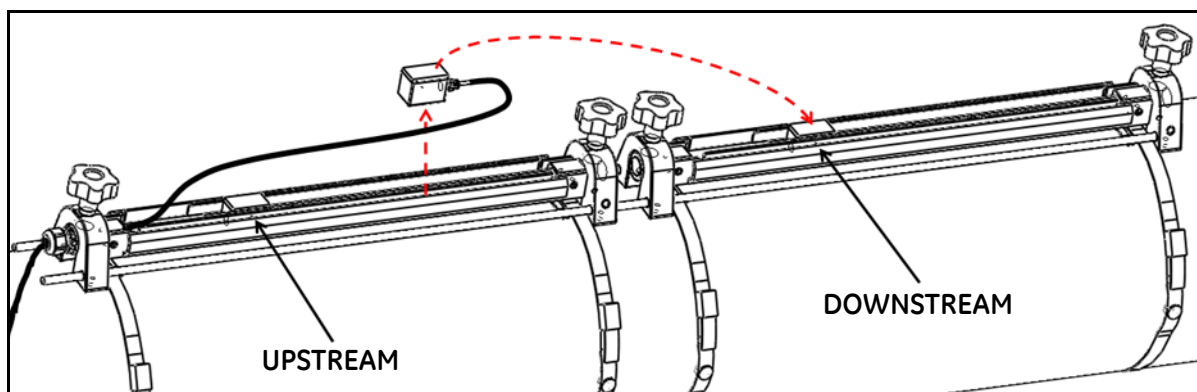

Figure 16: Moving the Downstream Transducer
- b. Remove the downstream transducer from the first fixture (see *Figure 16* below), disconnect the transducer cable, and route the cable into the second fixture. Then, install the downstream transducer into the second fixture and reconnect the transducer cable. If you are using solid couplant, apply it to both transducer faces. Then, rotate the transducers back onto the rail